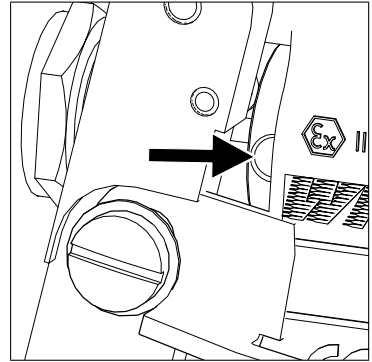

Fig. 14: Hole in the guide sleeve
1. Insert the supplied hexagon socket wrench in one of the holes on the guide sleeve (see Fig. 14 on page 36).